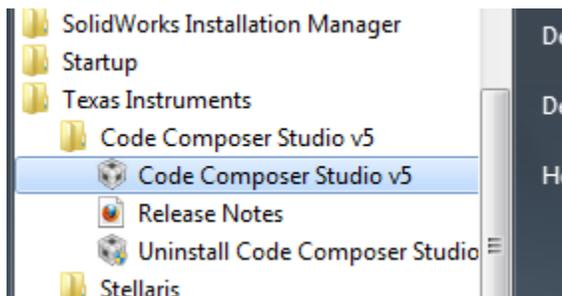

Figure 1. Code Composer
Step 1: Plug in the supplied USB cable to the top of the Evaluation Kit. Ensure the switch on the board is set to “DEBUG” and not “DEVICE”. It is assumed that the evaluation board is properly installed and operating. Launch the Code Composer software. The easiest way to find the executable is to go to Start, All programs and then look in the area identified in Figure 1.